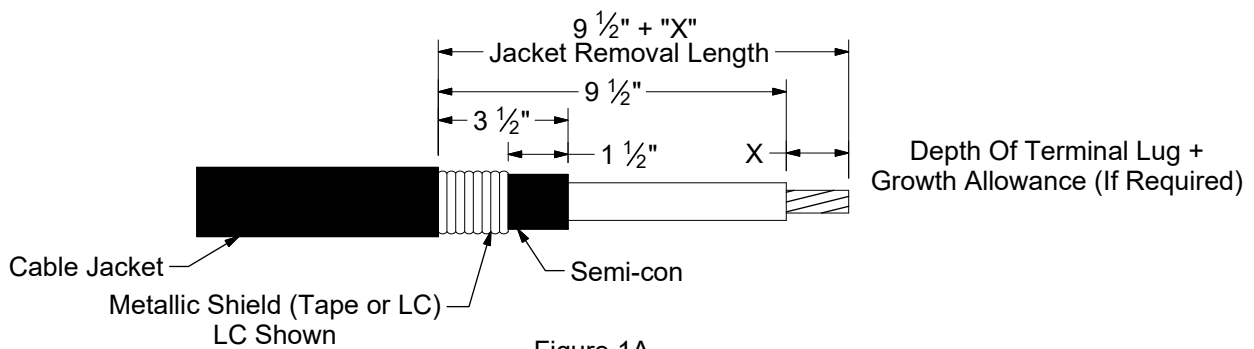

Figure 1A
1. Train cable into position and cut to required length. Strip the cable to the dimensions shown in Figure 1A. Check the lug being used to determine insert depth "X".